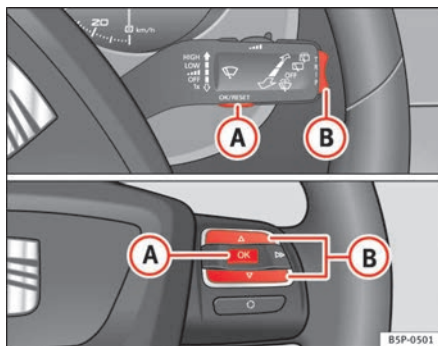

Fig. 38 Rocker buttons A and B. Steering wheel controls.
A **Service pre-warning** will appear in the mileage displays if a service is due soon. A “spanner” symbol appears and the display “km” with the distance that can be driven until the next service appointment is due. The display will change after approximately 10 seconds. A “clock symbol” appears and the number of days until the service appointment should be carried out. The following message is shown in the instrument panel display: **SERV. IN... KM OR... DAYS**. The service message will disappear approximately 20 seconds after the ignition is switched on or the engine is running. The normal display can be resumed by pressing the reset button on the trip counter or by pressing the rocker switch of the MFI ⇒ page 60, fig. 38 ②.
- When the ignition is on, briefly press button \Rightarrow fig. 38 **A** on the windscreen wiper lever to change from one memory to another or press button **A** on the steering wheel controls \Rightarrow fig. 38.